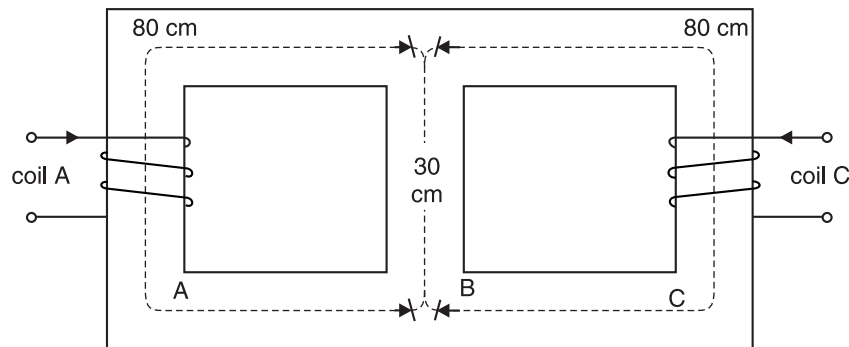

Fig. 8.17
**Example 8.16.** A magnetic core made of annealed sheet steel has the dimensions as shown in Fig. 8.17. The X-section is  $25 \text{ cm}^2$  everywhere. The flux in branches A and B is  $3500 \mu\text{Wb}$  but that in the branch C is zero. Find the required ampere-turns for coil A and for coil C. Relative permeability of sheet steel is 1000.